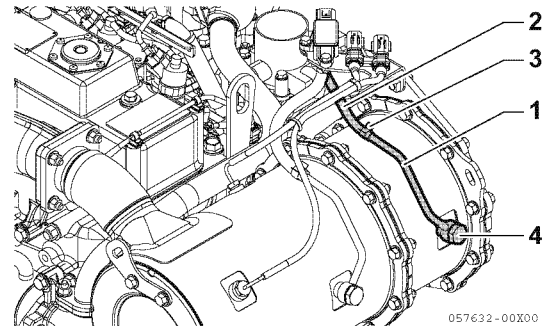

Figure 13-10
- Loosen the hose clip (**Figure 13-10, (3)**) for the hose (**Figure 13-10, (2)**) connected to the SF side exhaust pressure pipe (**Figure 13-10, (1)**), and remove from the pipe.
- SF cleaning is also possible while the exhaust pressure pipe is attached, therefore it is not necessary to remove the pipe joint bolts (**Figure 13-10, (4)**).